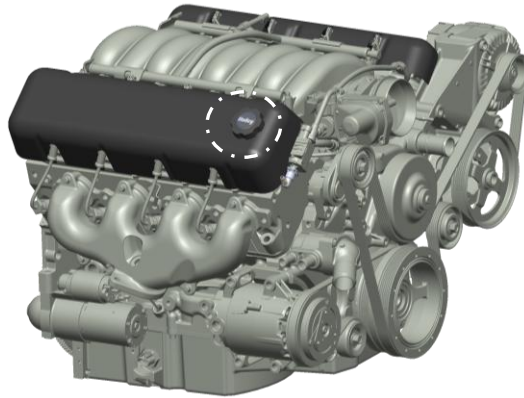

Figure 5
- A. The supplied fill tube adapter and original fill cap can be installed to provide easier access when adding oil (Figure 5).